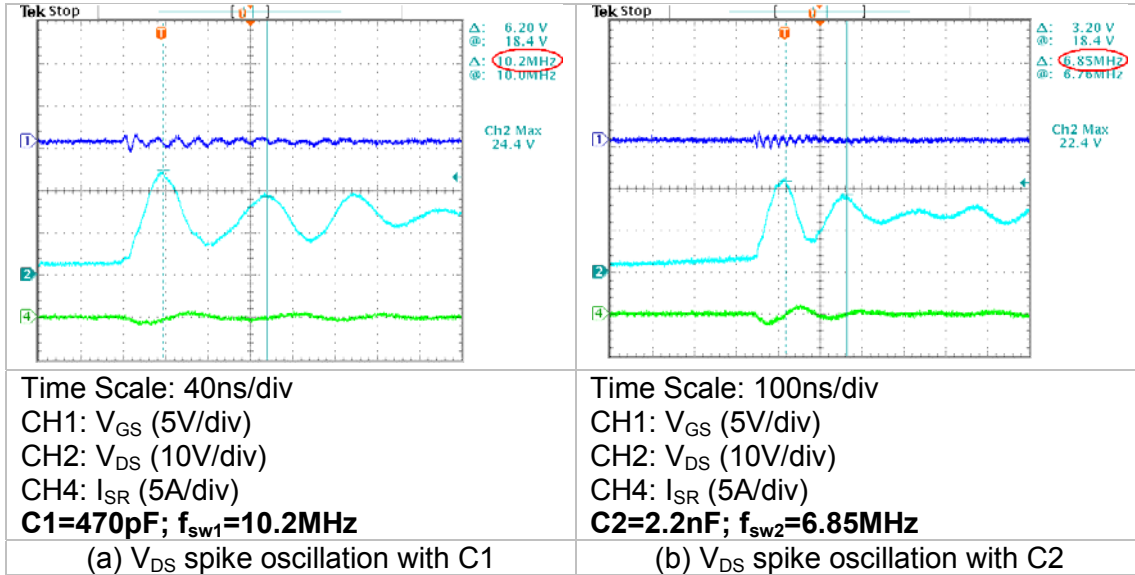

Figure 15 — Drain-Source Voltage Spike Oscillation
According to (13) and bench test results in figure 15,  $C_P$  and  $L_S$  can be calculated as  $\sim 940\text{pF}$  and  $\sim 0.2\mu\text{H}$ .
- Secondary stray capacitance and inductance:  $C_P=940\text{pF}$ ,  $L_S=0.2\mu\text{H}$ , which is already got from (13) and figure 15.